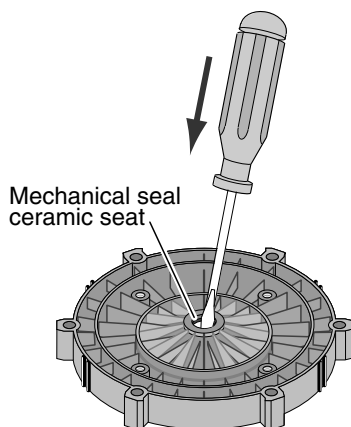

Figure 5
9. Place seal plate face down on flat surface and tap out ceramic seat (Figure 5).